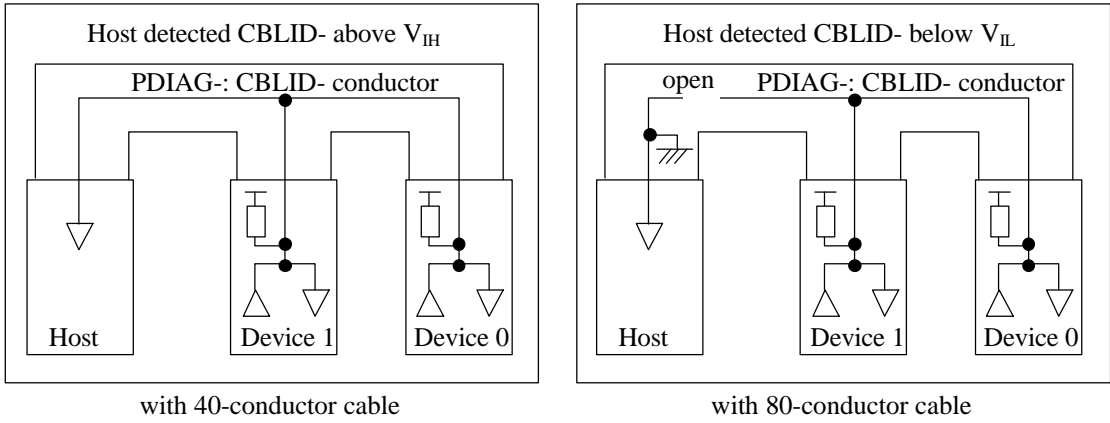
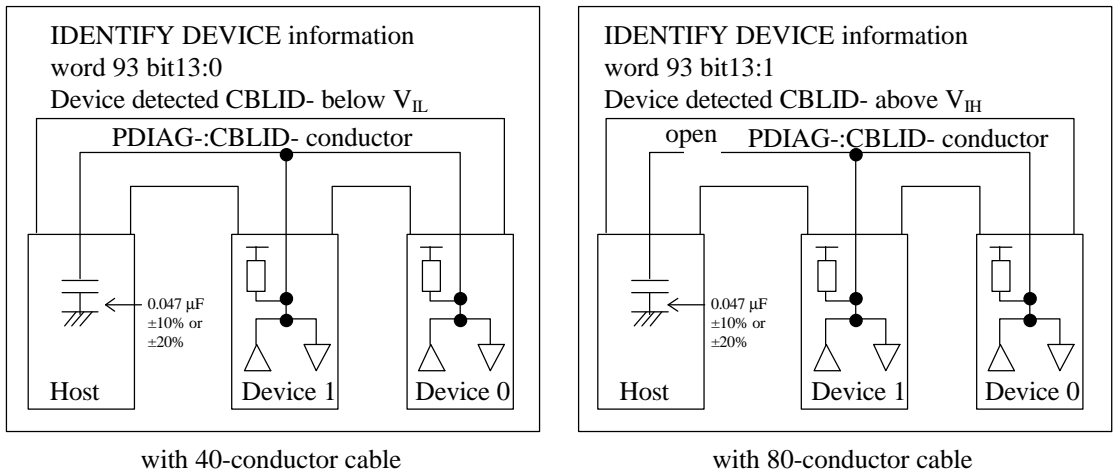

Figure 3.11 Cable type detection using CBLID- signal (Host sensing the condition of the CBLID- signal)
Figure 3.12 Cable type detection using IDENTIFY DEVICE data (Device sensing the condition of the CBLID- signal)
- c) Host system that do support Ultra DMA modes greater than mode 2 shall either connect directly to the device without using a cable assembly, or determine the cable assembly type. Determining the cable assembly type may be done either by the host sensing the condition of the PDIAG-:CBLID- signal (see Figure 3.11), or by relying on information from the device (see Figure 3.12). Hosts that rely on information from the device shall have a 0.047 μ F capacitor connected from the PDIAG-:CBLID- signal to ground. The tolerance on this capacitor shall be 20% or less.